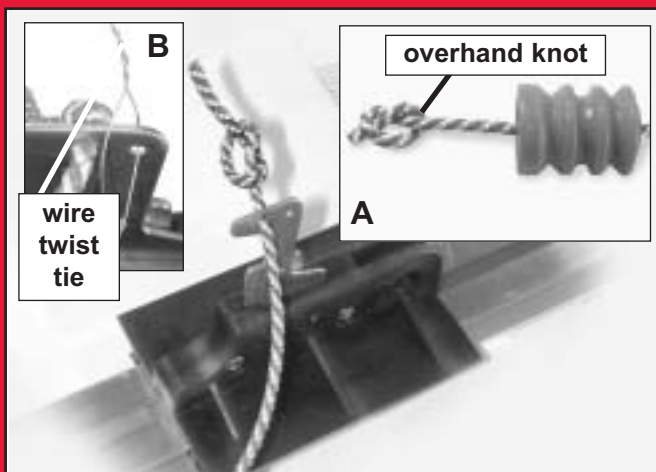

FIG. 1-5 Attach emergency release cord & tag.
- Tie overhand knot in 1 end of cord. Tighten knot. (**FIG. 1-5 inset A**).
- Slip through hole in emergency release lever (**Fig. 1-5**).
- Attach to hole in emergency release using metal twist tie on tag. (**Fig. 1-5 inset B**).